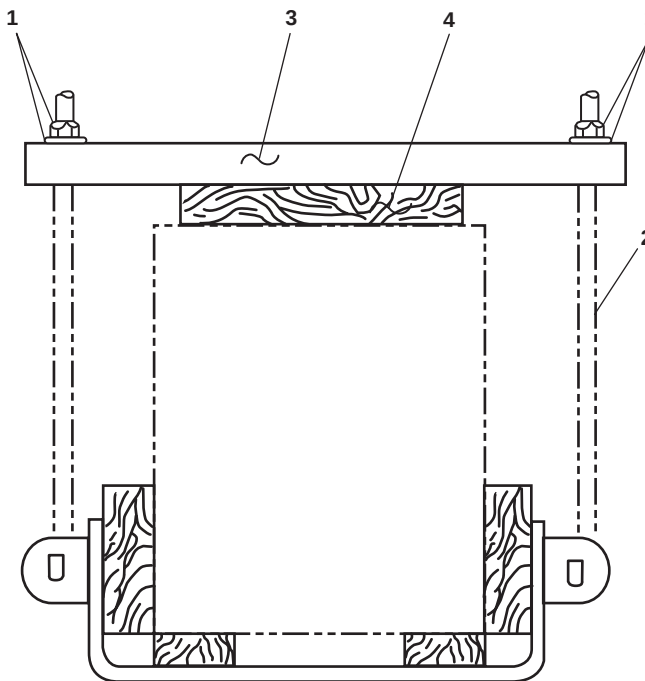

Figure 1. Battery Replacement
2. Remove the hex nut and flat washer (figure 1, item 1) from the J-bolt (figure 1, item 2).
3. Remove the battery hold down (figure 1, item 3).
4. Remove the wood spacer (figure 1, item 4).
5. Install the wood spacer (figure 1, item 4).
6. Install the battery hold down (figure 1, item 3) and secure it with the J-bolts (figure 1, item 2), washers, and nuts (figure 1, item 1).